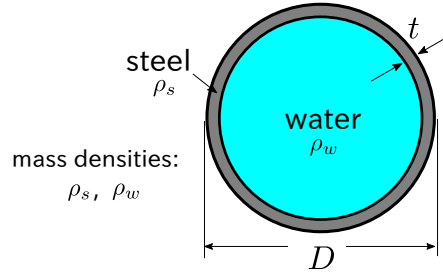

Figure 2: The cross sections of (a) a truss member (round bar) and (b) the pipe.
Consider designing a simply supported Warren truss shown in Fig.1. To assemble the truss, we use the bars of length l having a uniform circular cross section of diameter d as illustrated in Fig.2-(a). When completed, the truss is going to be used to support two straight pipes (pipe 1 and 2) crossing over a canal of width $3l$. In performing the structural analysis necessary for the design, we will assume the followings.
4. Write the magnitude F of the force using the dimensions l, D, t of the bars and pipes, gravity constant g , and the mass densities of water ρ_w and steel ρ_s as indicated in Fig.2.